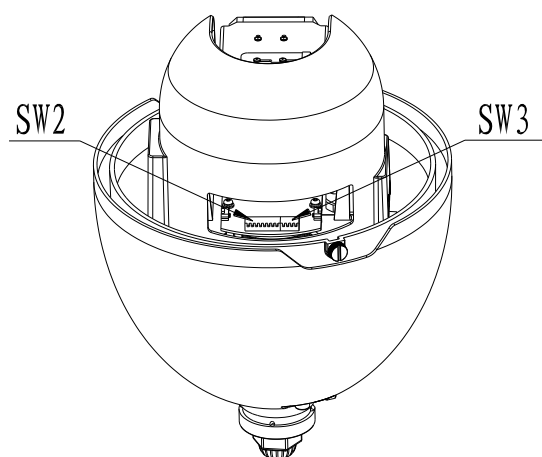

Figure 1-2
Step2: Set address and Baud Rate. Now you can set the intelligent speed dome address and baud rate. The speed dome interface is shown as below. See Figure 1-2. There are two dial switches: SW2 and SW3. Here you can set the address, baud rate, and etc. Please refer to chapter 1.4 for detailed information.